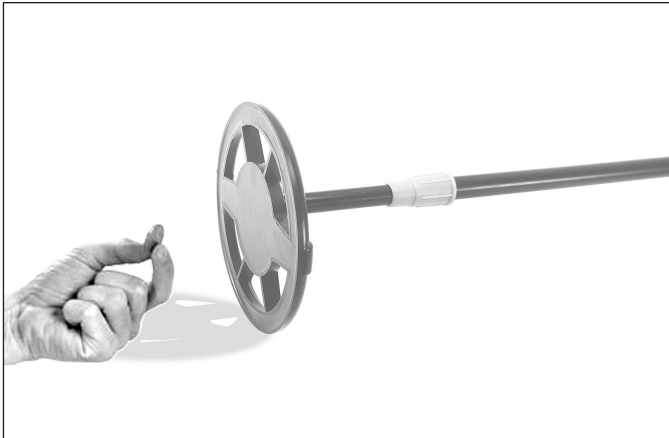
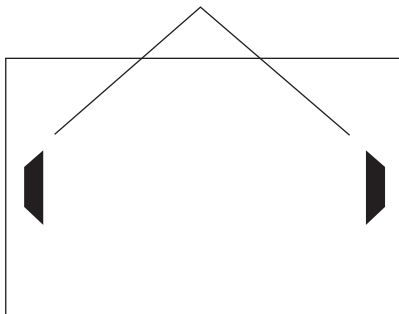
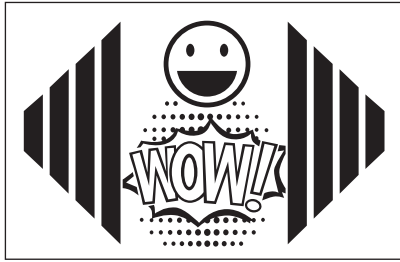

Figure 6
Figure 7. Stand-by Display
Figure 8
Place the metal detector on a wooden or plastic table with the search coil roughly perpendicular to the table surface ( see Figure 6 ). Make sure the table is far away from TVs, computers, or any device that can cause electromagnetic interference. To avoid interference, remove any watches, rings, or other metal objects on your fingers and hands.
Counterclockwise turn the ALL METALS/DISC knob until it clicks. Now the detector is in the ALL METALS mode. Refer to Figure 6, respectively pass the metal samples ( the iron nail and 3 coins ) across the search coil at a distance of 5cm to 8cm. When any of the metal samples passes across the search coil, the detector should beep and the monitor screen should show the display shown in Figure 8. When the detector stops sounding, the monitor screen should show the stand-by display quickly ( see Figure 7 ).
detector will respond to ANY metal object and the monitor screen will show the display shown in Figure 8 when the detector beeps.
2. As a test, sweep the iron nail sample across the search coil at a distance of about 5cm to 7.5cm, the detector will not beep and the stand-by display ( see Figure 7 ) will remain on the monitor screen, but the other metal samples ( the three coins ) will cause the detector to beep and the monitor screen to show the display shown in Figure 8 when they are respectively swept across the search coil.